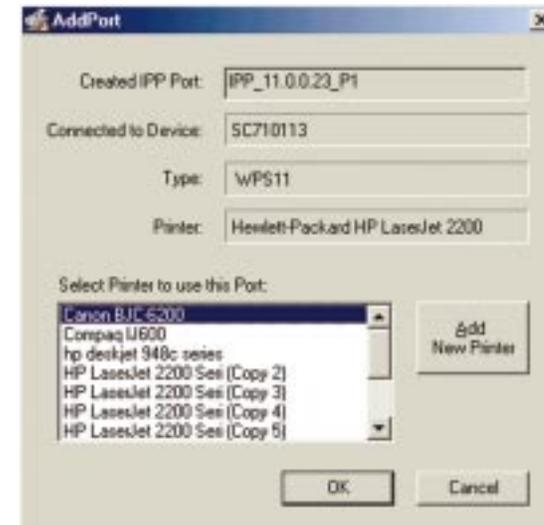

Figure 8-2
5. Click **Save** to create the IPP port on your system. You will see a message confirming that the port has been created and then Figure 8-2.